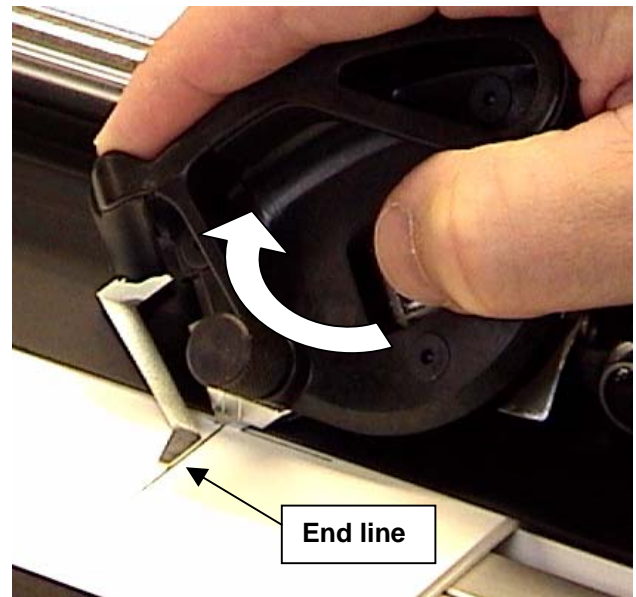

Figure 5
4. Execute the cut and retract the blade when the end of cut line aligns with the sight gauge. (Figure 5)